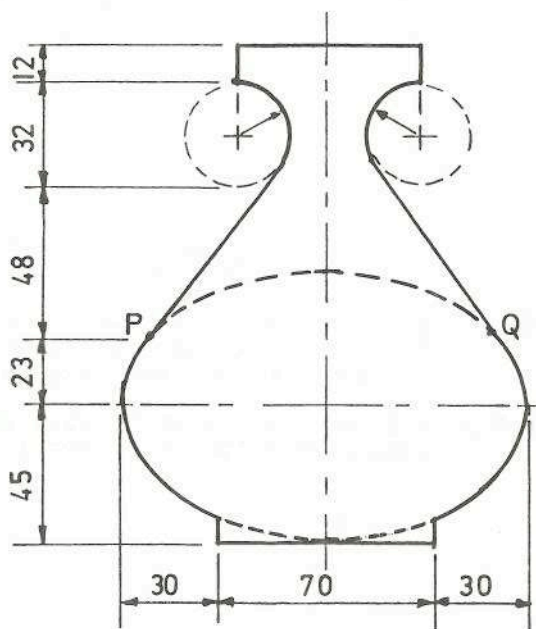

Fig. 9
9. (a) The design shown in Fig. 9 contains an ellipse, major axis 130 mm and minor axis 90 mm. Draw this design showing clearly how to find the direction of the tangents at P and Q and the centres for the circles.